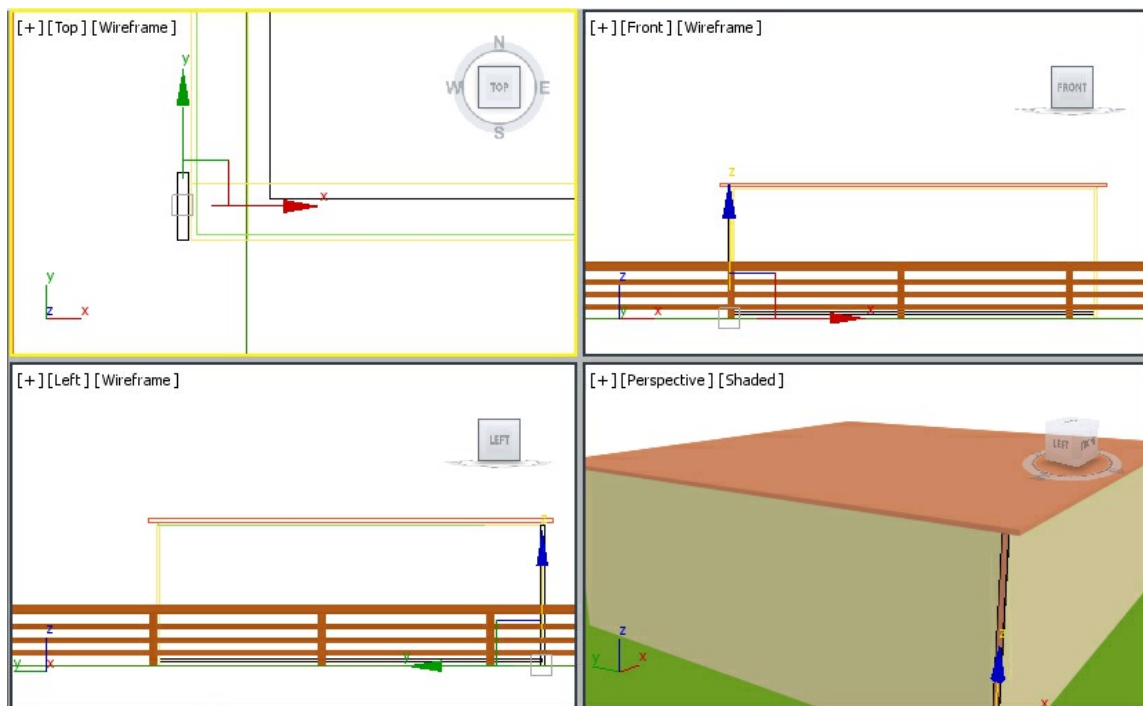

Figure 4-78 The *fc01* geometry in the Top viewport after alignment
24. Choose the **Select and Move** tool and align *fc01* with *wall*, as shown in Figure 4-78.